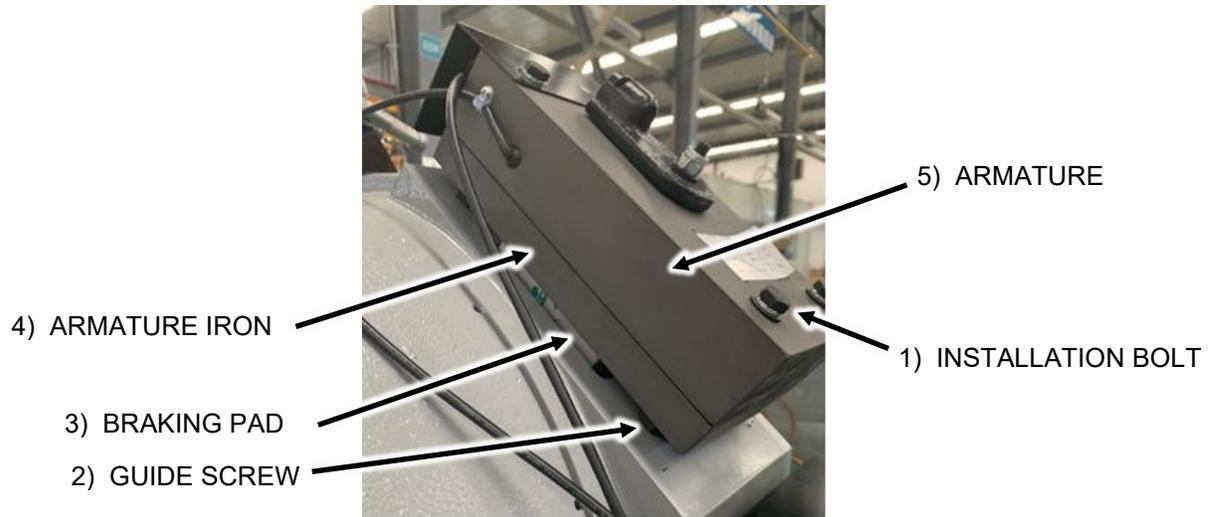

Figure 39
7. Adjust the guide screw sleeve of guide screw 2 and the mounting bolt of insulation bolt 1, so that the air gap between the armature of armature 5 and the armature of armature iron 4 is between 0.012" (0.30 mm) to 0.022" (0.55 mm), the gap between the brake belt and the brake wheel is 0.004" (0.10 mm) to 0.006" (0.15 mm), and the distance between the guide screw sleeve of guide screw 2 and the iron surface of armature iron 4 is about 0.197" (5 mm). no less than 0.118" (3 mm) under any conditions, as shown in Figure 39.